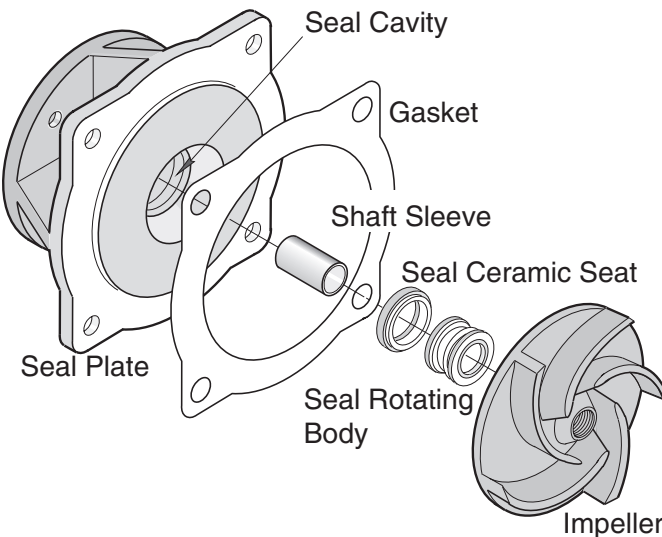

Figure 2 - Seal components and orientation
- 1. Refer to Figure 2. Remove pump case from seal plate to expose impeller and mechanical seal.